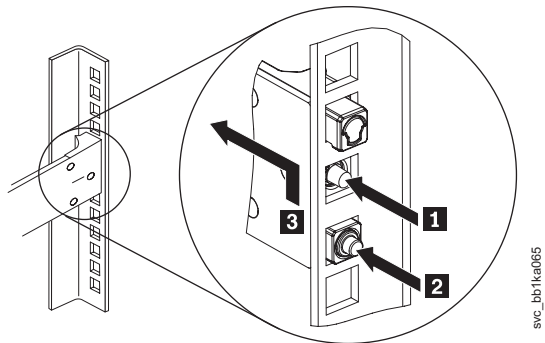

Figure 46. Disengaging the SAN Volume Controller 2145-CF8 slide rails from the rear of the rack
- a. Push in the pins in the order shown by **1** and **2** in Figure 46.